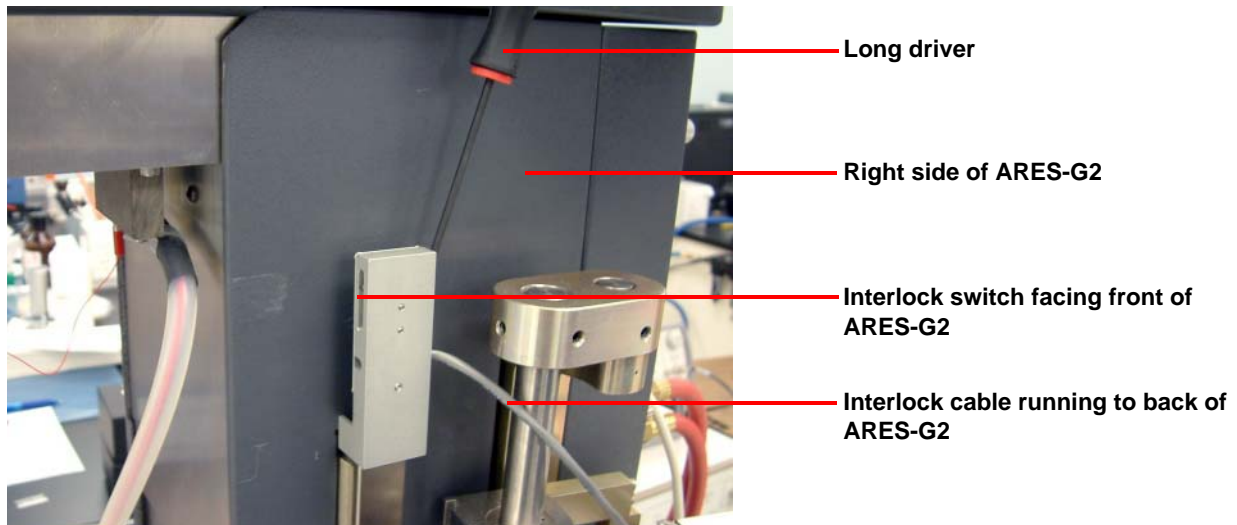

Figure 18 Securing interlock bracket to ARES-G2 striker plate.
- c Position the interlock bracket on top of the striker plate and lock nut washer, ensuring that the interlock cable is running towards the back of the ARES-G2 and the interlock switch is facing the front of the instrument. Refer to Figure 18 for proper orientation on the right side of the ARES-G2.